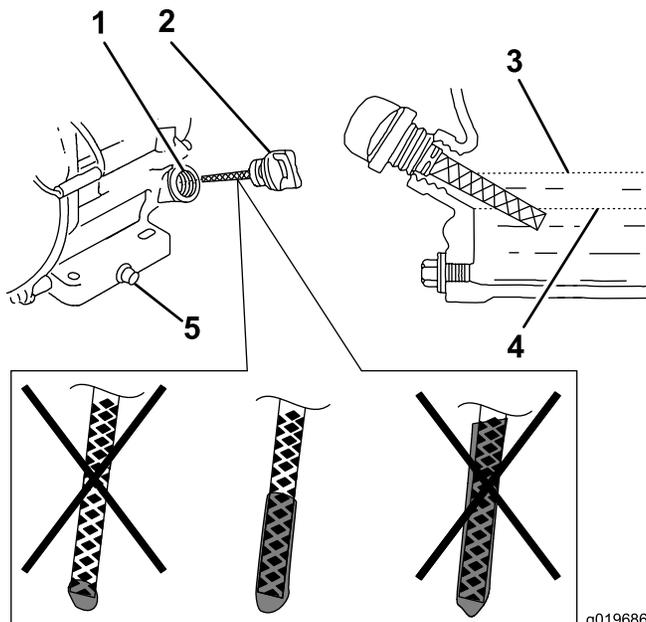

Figure 30
6. Remove the dipstick and check the engine-oil level (Figure 30).